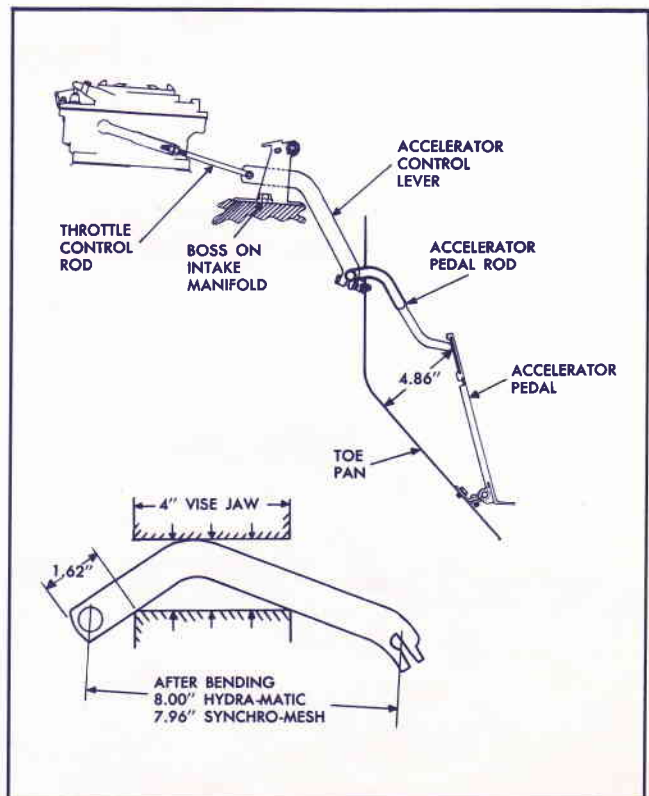

Fig. 4 Correct Position Of Accelerator Linkage
The specified accelerator pedal height from top of spherical end of pedal rod to body toe pan (underneath carpet) is 4.86" as shown in Fig. 4. On some early 1958 cars this dimension allows the accelerator control lever to come too close to the intake manifold. If the control lever is adjusted to provide adequate clearance at the manifold, the accelerator pedal will be lowered resulting in loss of pedal travel and making the 4-3 transmission downshift difficult to obtain.
2. If this proper pedal height brings control lever less than 1/2" from intake manifold, remove control lever from car and rework in vice jaws as indicated in Fig. 4.